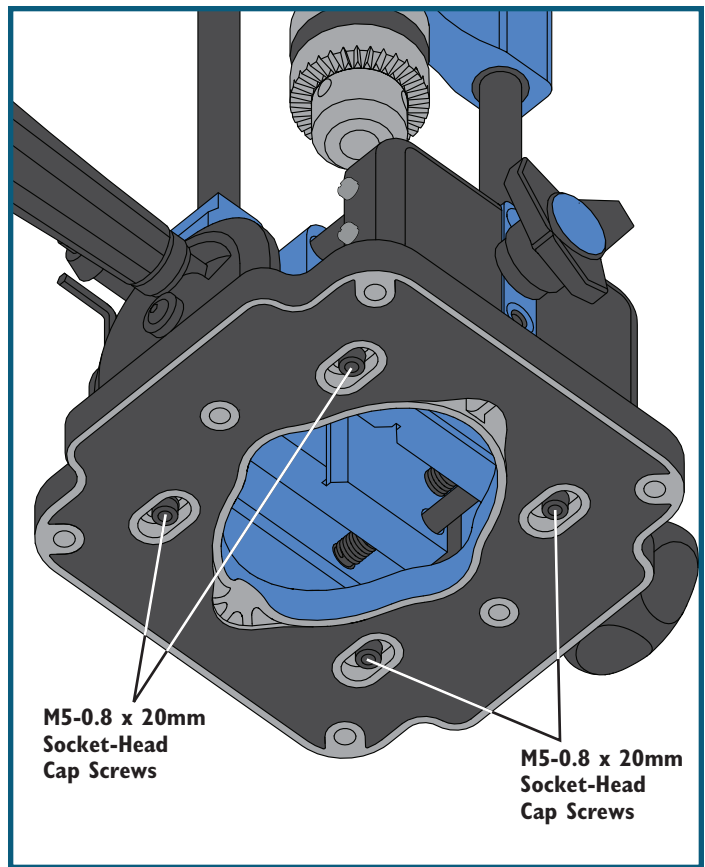

Fig. 4
7. From the underside of the Portable Drill Vise, carefully tighten the M5-0.8 x 20mm Socket-Head Cap Screws to secure the Drill Vise to the Portable Drill Guide. **Fig. 4.**